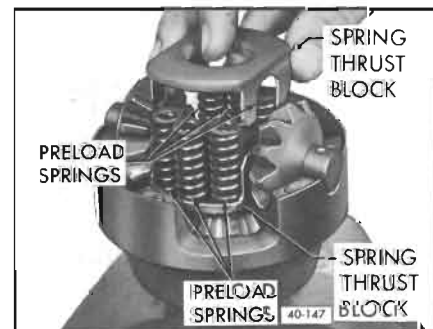

Figure 40-147—Installing Preload Springs and Second Thrust Block In Differential Case
5. Place springs on spring thrust block that is already installed in case, then place second thrust block over springs. See Figure 40-147.